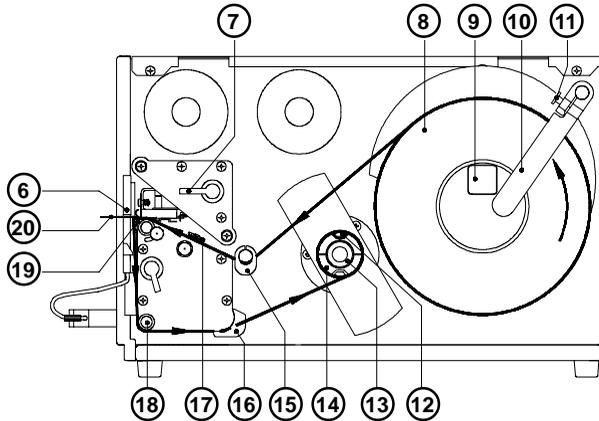

Figure 8p Inserting the labels
1. Lift the printhead by turning the lever (7) clockwise until it stops.
2. Loosen the knurled screw (11) and swing media retainer (10) backwards.
3. Place the media roll (8) onto the media hub (9). Swing the media retainer (10) to the media hub and inwards until it rests against the side of the roll. Tighten the knurled screw (11).
5. Unroll a length of media stock and feed it through the **Gemini 2** as shown in Figure 8p. It is particularly important to ensure that the media strip slides properly between the adjustable fittings of the photocell assembly (17).
6. Feed the media strip between the print roller and the thermal printhead, and then over the dispense edge (19) up to the internal rewriter (14).
7. Slide the media strip from underneath the rewriter clamps (12) to the disc. Fasten the media strip to the axle by holding the rewriter (14) and rotating the knurled knob (13) clockwise until it stops. To tighten the media, rotate rewriter counter-clockwise.
9. Lock the printhead by turning the lever (7) counter-clockwise until it stops.